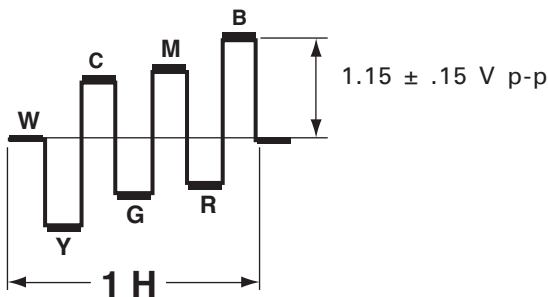

Figure 7. Sub Color
7. Set the data with numeric keys 5 ~ 0 for  $1.15 \pm .15$  V p-p. See Figure 7.
9. Set the data with numeric keys 5 ~ 0 for waveform shown in Figure 7 (Stair Steps).